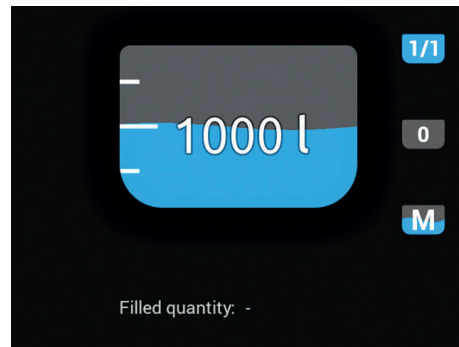

Fig. 331
- 2 Press **F3** to view the **Tank** menu (Fig. 331).